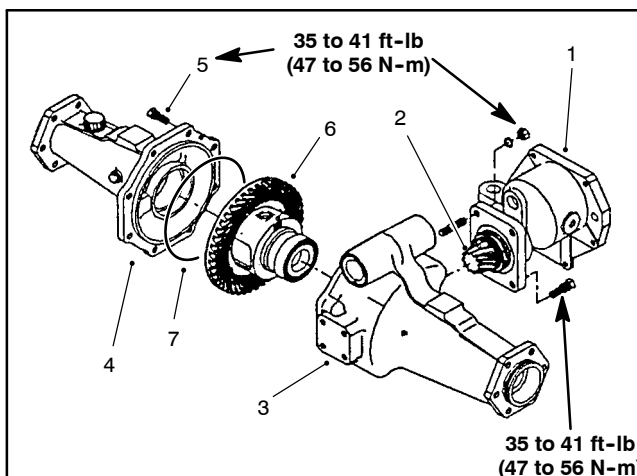

Figure 30
3. Remove input shaft/pinion gear assembly, shims, and O-ring from the axle support (Fig. 30).